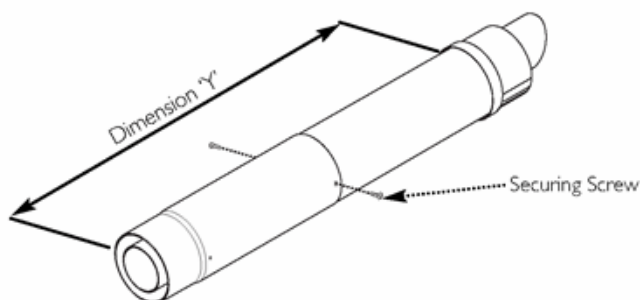
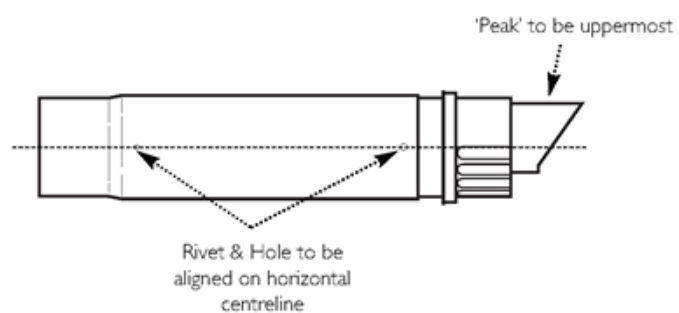
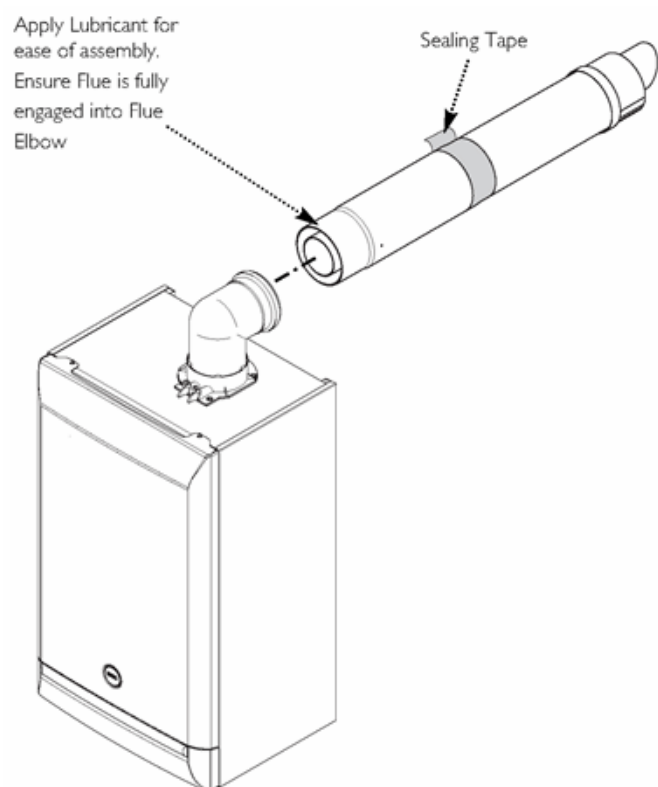

Fig. 41
Fig. 42
Fig. 43
8. Adjust the two telescopic sections to dimension 'Y' (Fig. 41). Ensure that the rivets and holes in the Connection Assembly are aligned horizontally (Fig. 42).
9. Using a 2mm bit, drill through the holes at the end of the Connection Assembly into the Terminal Assembly and secure them together using the screws supplied (Fig. 41). Seal the joint with the tape provided (Fig. 43).
10. Remove the flue elbow and insert the flue through the hole in the wall. Refit the elbow to the boiler adaptor, ensuring that it is pushed fully in (Fig. 43).
11. Draw the flue back through the wall and engage it in the elbow. It may be necessary to use soap solution or similar to ease assembly of the elbow adaptor and flue (Fig. 43).